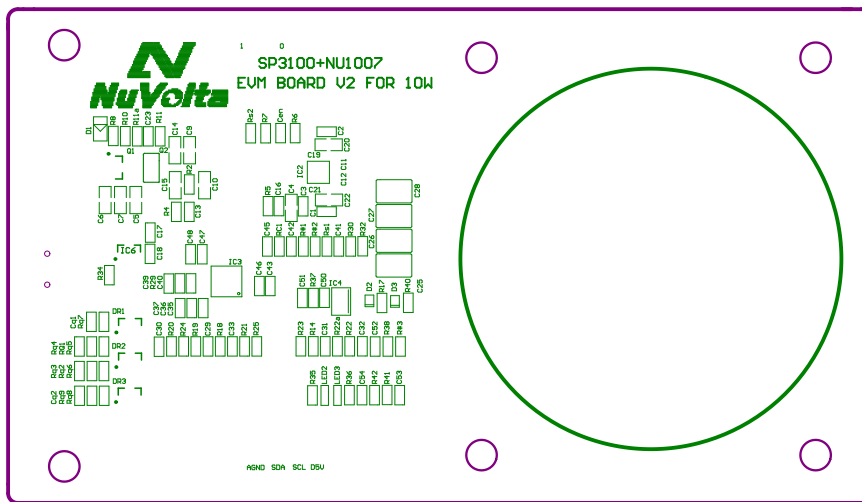

Figure 12. Top Overlay
- Separate the analog-ground plane from the power-ground plane, and use only one point to join them. Please refer to the R34 of Figure 12.
- Place small-size input capacitors as close as possible between the Vin pin and PGND pin. These capacitors can effectively filter out high-frequency noises due to their low ESR and ESL. Please refer to C19 and C21 in Figure 12.